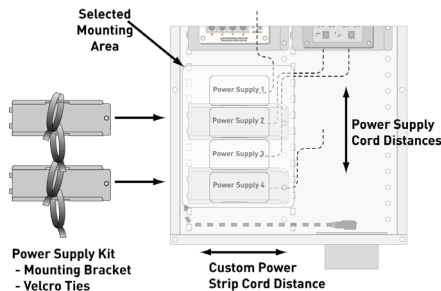

Figure 2
1. Choose a location within the enclosure that will provide enough distance for both the custom power strip and the power supply cables to be adequately routed (see **Figure 2**).